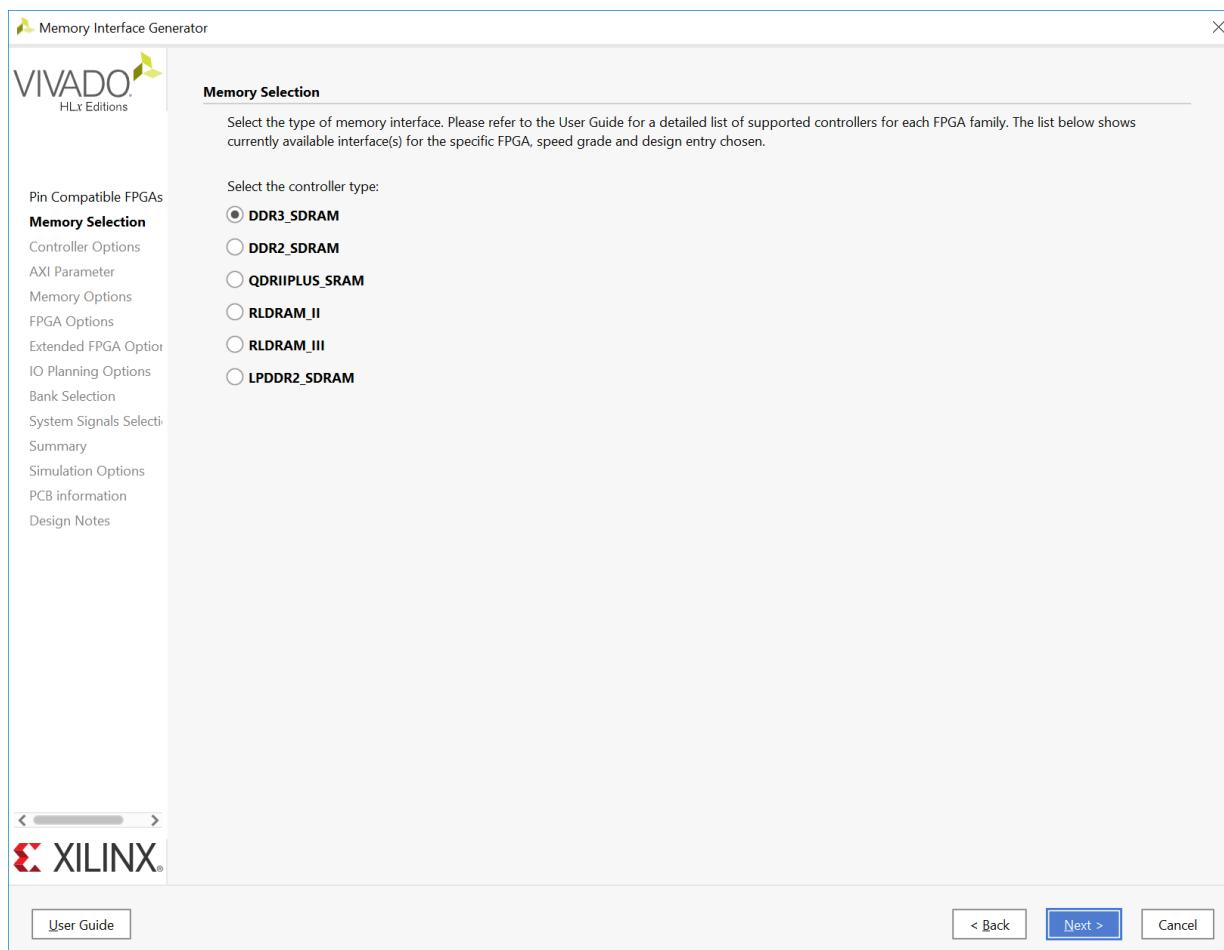

Figure 1-16: Memory Type and Controller Selection
2. Click **Next** to display the **Controller Options** page (Figure 1-16).